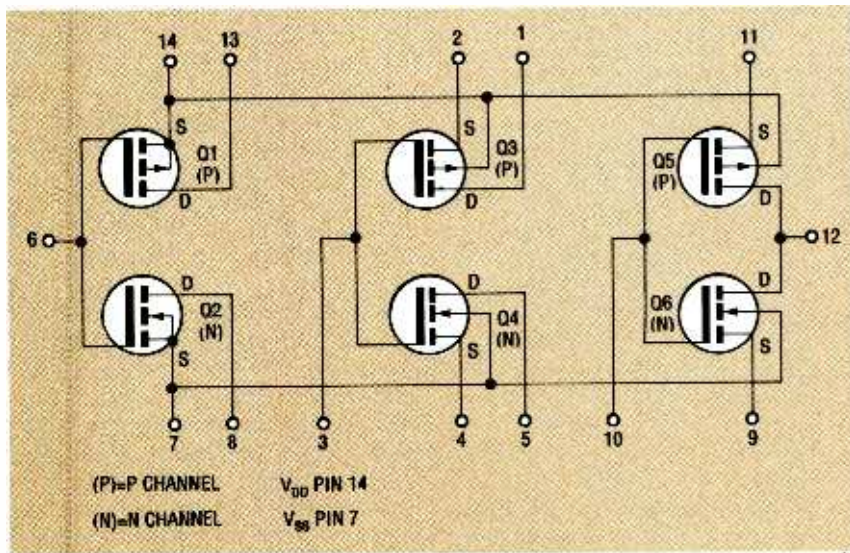
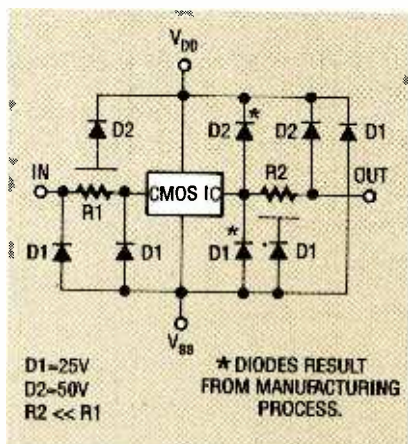
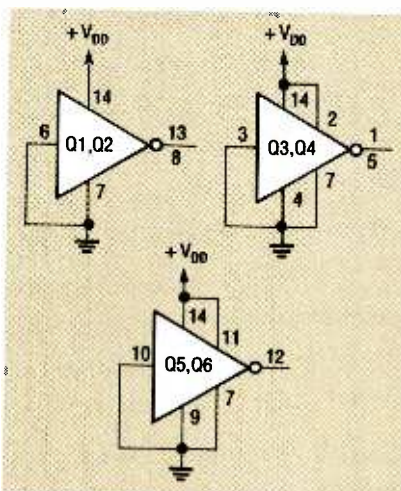

FIG. 5—A SIMPLIFIED SCHEMATIC FOR A CMOS CD4007UB dual complementary pair plus inverter showing accessible pairs of MOSFET's and a CMOS inverter.
FIG. 7—AN ON-CHIP PROTECTIVE network protects the CD4007UB against ESD. Some diodes result from the manufacturing process.
FIG. 8—ANY PAIR OF MOSFET'S (Q1 to Q6) on the CD4007UB can be disabled by connecting them as CMOS inverters and grounding their inputs.
A small-scale, industry-standard CMOS IC that contains a number of accessible N- and P-channel enhancement-mode transistors is an excellent source of MOSFET's for experiments. Figure 5 shows the schematic of a CD4007UB, a dual complementary pair plus inverter. It has six accessible MOSFET transistors: two pairs are unconnected and the third pair is connected as a CMOS inverter or NOT gate.
Figure 5 is the schematic for the 4007UB in a 14-pin DIP package. The MOSFET's have been labeled Q1 to Q6. Transistors Q1, Q3, and Q5 are P-channel devices, while Q2, Q4, and Q6 are N-channel devices. Pin access is given to all three terminals of transistors Q1 to Q4, but transistors Q5 and Q6 are permanently configured as an inverter. The typical output and transfer characteristics of Figs. 3 and 4 were obtained from an N-channel MOS transistor Q2 of a 4007UB.
to the functions they perform in the schematic, Fig. 5. Table 1 presents the outstanding characteristics of the 4007UB. Figure 7 shows the protection network for the CD4007UB. Input diode D2 is a distributed resistor-diode network that appears as two diodes to V_{DD} .
- In any application, *all* unused elements of the device *must* be disabled. Complementary pairs of MOSFET's can be disabled by connecting them as standard CMOS inverters, as shown in Fig. 8 (gate-to-gate and source-to-source), and grounding their inputs. Refer to Fig. 5 to interpret the pin numbers given in the figure. (The tri-